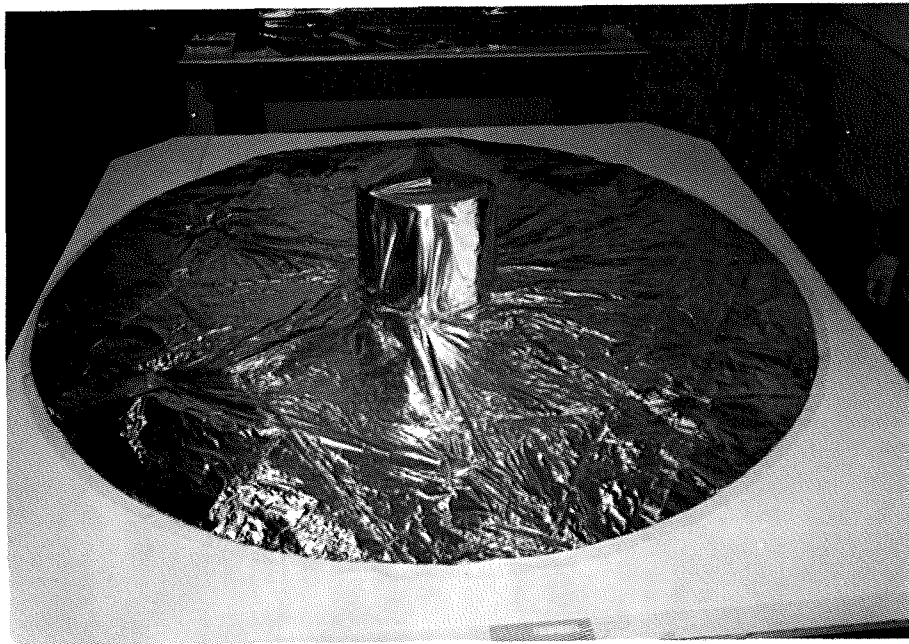

FIG. 1
STEP 1. Lay out shroud in fully unfolded position. Straighten skirt by pulling in a radial direction on the bottom layer (clear Mylar) of material around the complete circumference, see Figure 1.